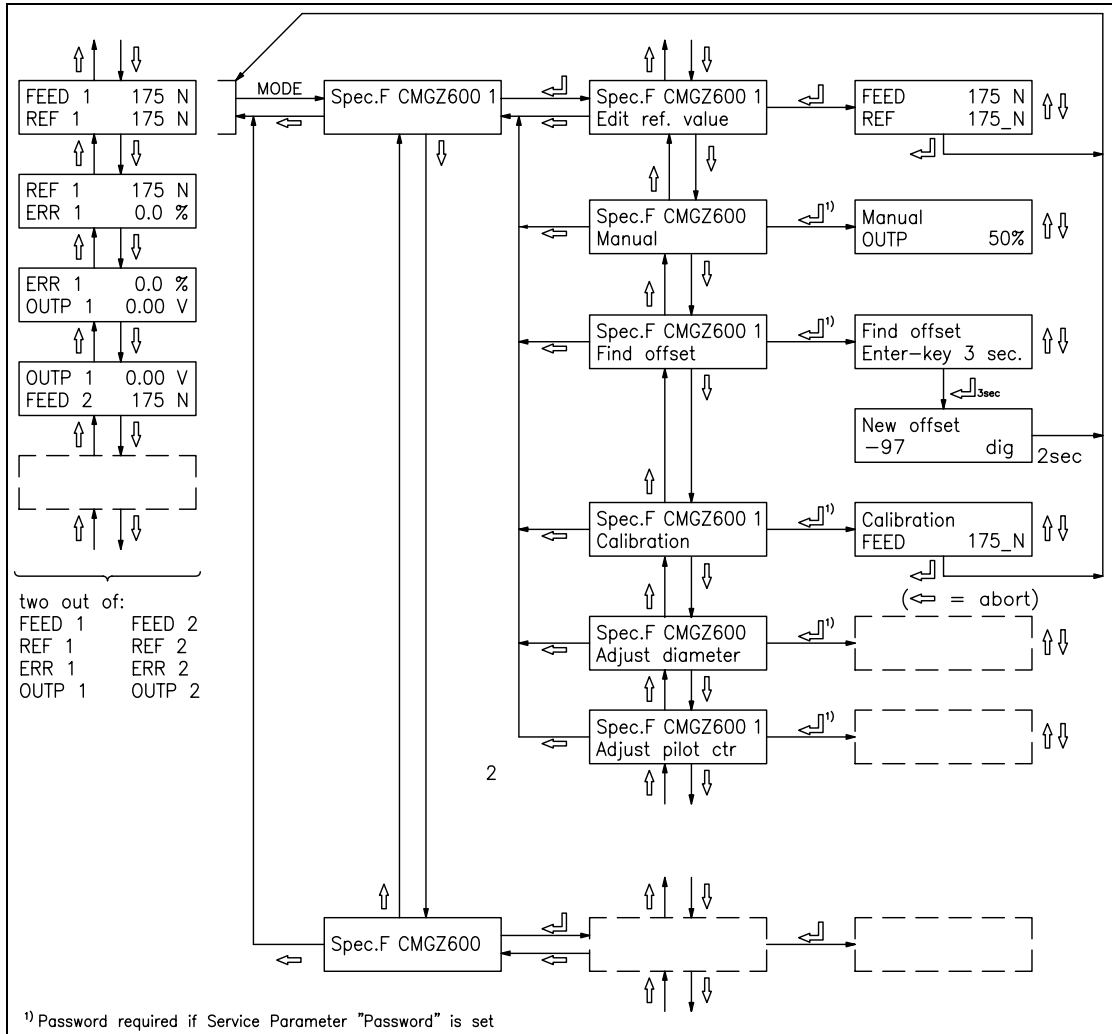

Fig. 15: Main operating menu CMGZ612A
- Press MODE key. Search and select the module *Spec.F CMGZ600 1* and the special function *Find offset* with the \uparrow \downarrow \leftarrow keys (fig. 15).
- Press MODE key. Search and select the module *Spec.F CMGZ600 1* and the special function *Calibration* with the \uparrow \downarrow \leftarrow keys (fig. 15).
- Set the force referring to the applied weight into the display with the \uparrow \downarrow keys and confirm with \leftarrow key (fig. 15). The electronic unit calculates automatically the new gain value. The display will return to the main operating menu.
The calibration of the measuring amplifier, as described above, applies to module 1. The same procedure must be followed for module 2. For that purpose use the special functions from module *Spec.F CMGZ600 2* (ref. to fig. 15).
- Execute special function *Edit ref. value* (ref. to fig. 15). Input new reference value with \uparrow \downarrow keys and save it with \downarrow key.